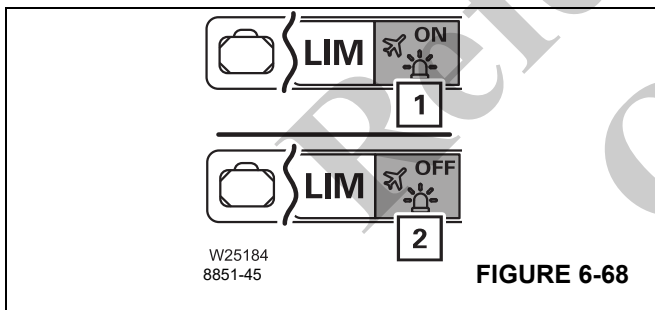

FIGURE 6-68
To switch ON:	Select symbol (1), (Figure 6-68) and confirm – symbol ON is displayed